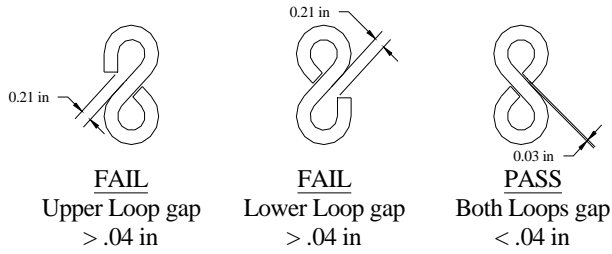

Figure 9: Check loops for .04" gap
14. Attach swings, rings, and tire swings after resilient surfacing material is in place. Completely close all "S" hooks. See ASTM Requirements for Fastening Devices in Figures 9 - 12 (located on page 13).